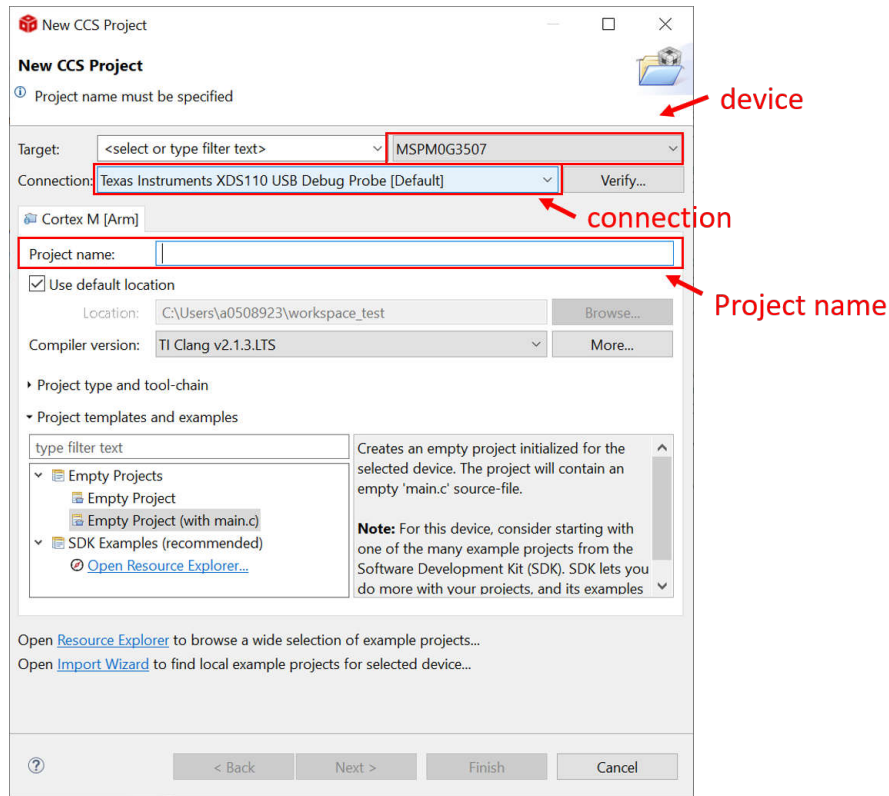

Figure 2-19. Create a New Project in CCS
2. If users want to create a new project, then go to file--> new-->CCS project. There are two important items that need to be done. The first one is to choose MSPM0 device and the other one is to choose the connection, as shown in Figure 2-19. Then, the program can be created after project name is added and press finish button. TI recommends to find the MSPM0 SDK example, which introduces how to use CCS in Section 2.2.4.